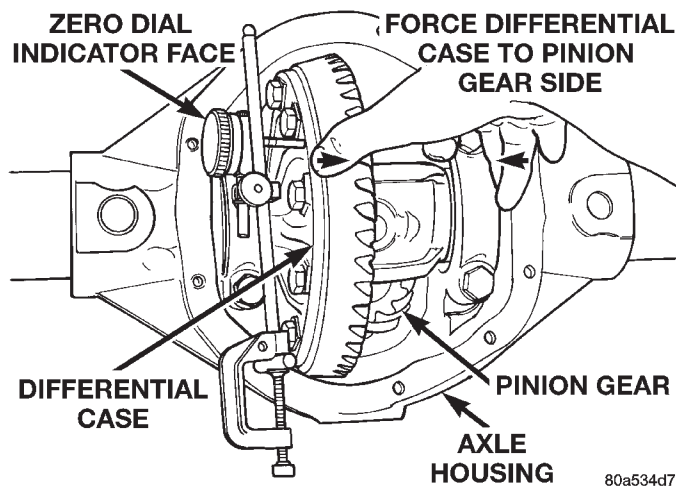

Fig. 74 Hold Differential Case and Zero Dial Indicator
(21) Push and hold differential case toward pinion gear (Fig. 74).
(22) Zero dial indicator face to pointer (Fig. 74).